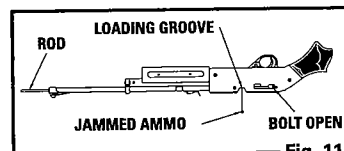

Fig. 11
- Carefully push the jammed BB or pellet into the loading groove. (Fig. 11)